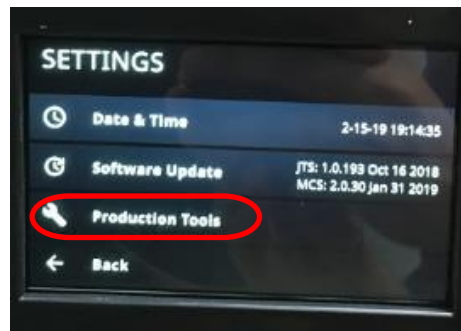

Figure 25b: Settings Screen with Production Tools Circled.
- c. Select PRODUCTION TOOLS. **See Figure 25b.**
- h. Select BACK. **See Figure 25b.**